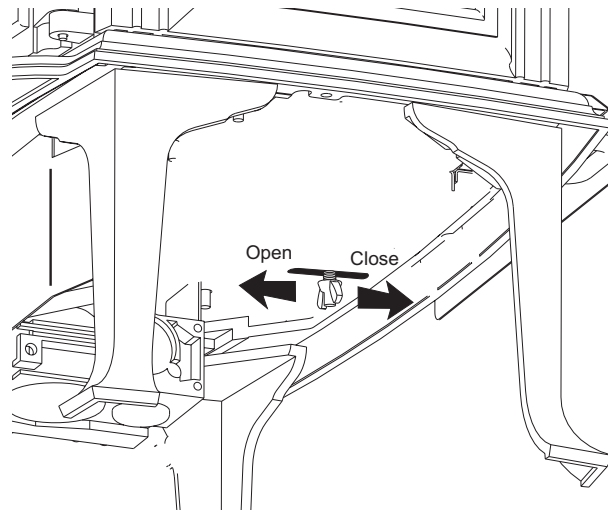

Figure 32. Air Shutter adjustment.
**Adjust the Air Shutter:** The shutter is adjusted from under the stove. The adjustment stem is secured by a wingnut and is located directly behind the gas valve toward the rear of the stove. See fig. 32. Loosen the wingnut and slide the shutter stem back to open (more air) and forward to close.